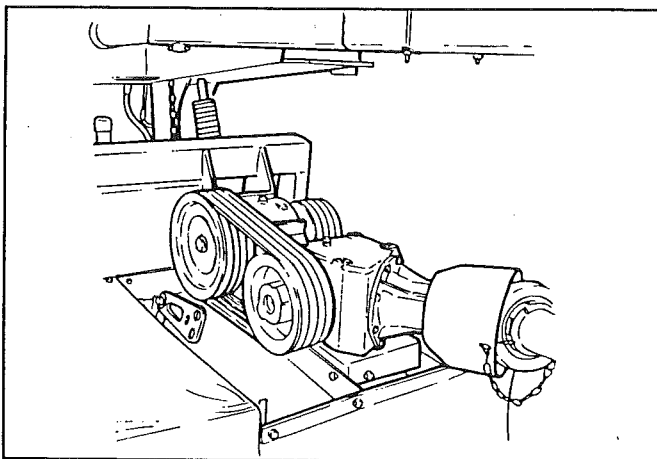

Fig. 11
**FIG. 11** 1000 RPM. From the factory the machine is mounted for 1.000 RPM on the PTO. On tractors with 540 RPM the two pulleys on the bevel gears must be exchanged to obtain the right RPM on the cutterbar.